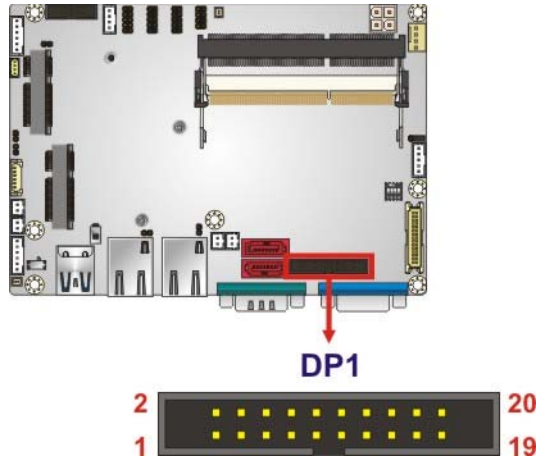

Figure 3-10: Internal DisplayPort Connector Location
- CN Location:** See **Figure 3-10**